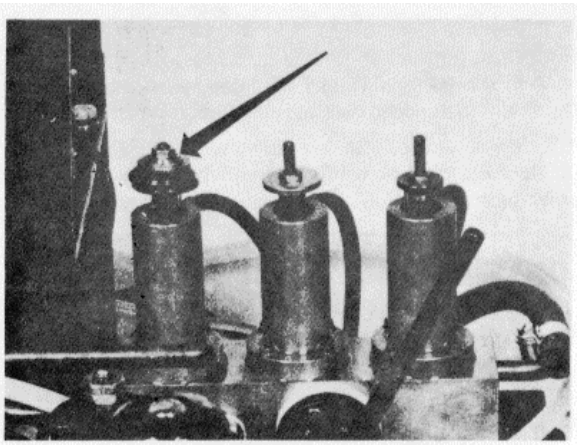

Figure 16H-107. 100 psi Supply Pressure Valve
Tools required: Dummy Injector and Link (4), Figure 16H-100, Pressure Gauge (6), tubes and fittings for making a tee and connecting the gauge. Tubes and fittings are included in the Audit Kit.